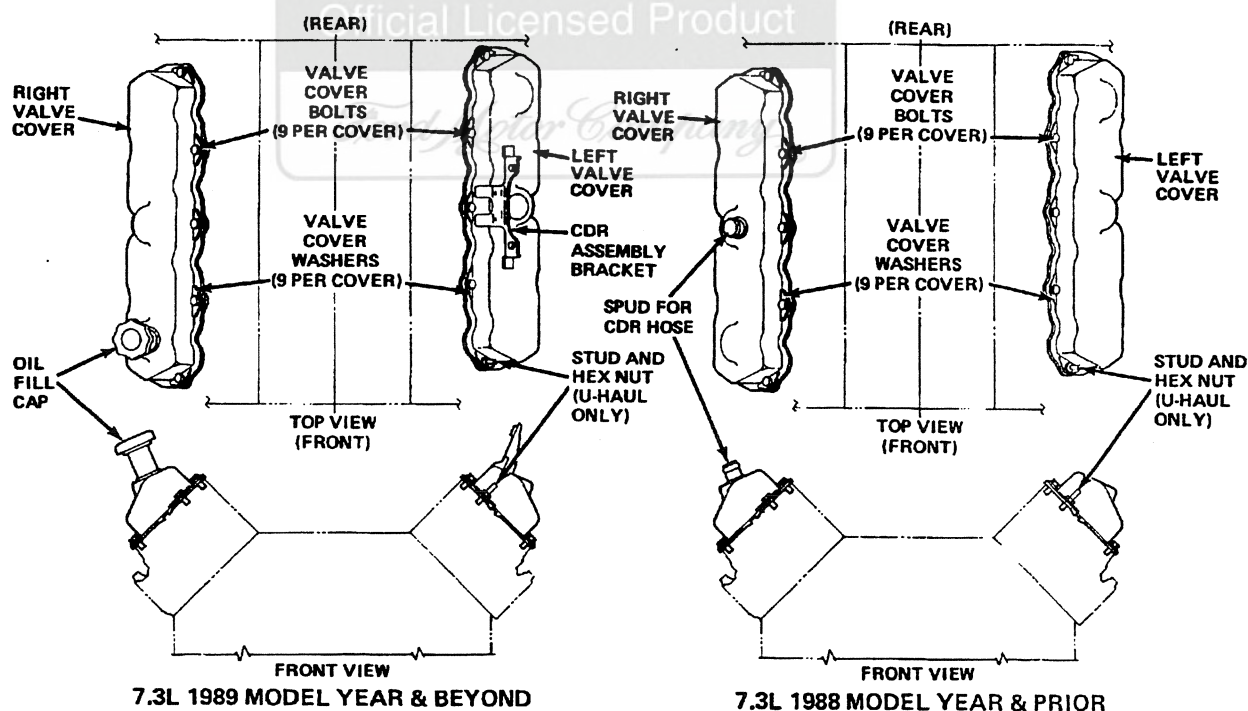

Figure 3.6. Valve Cover Removal
1. Remove nine valve cover bolts and washers from the right and left side (Figure 3.6). Remove valve covers and gaskets.